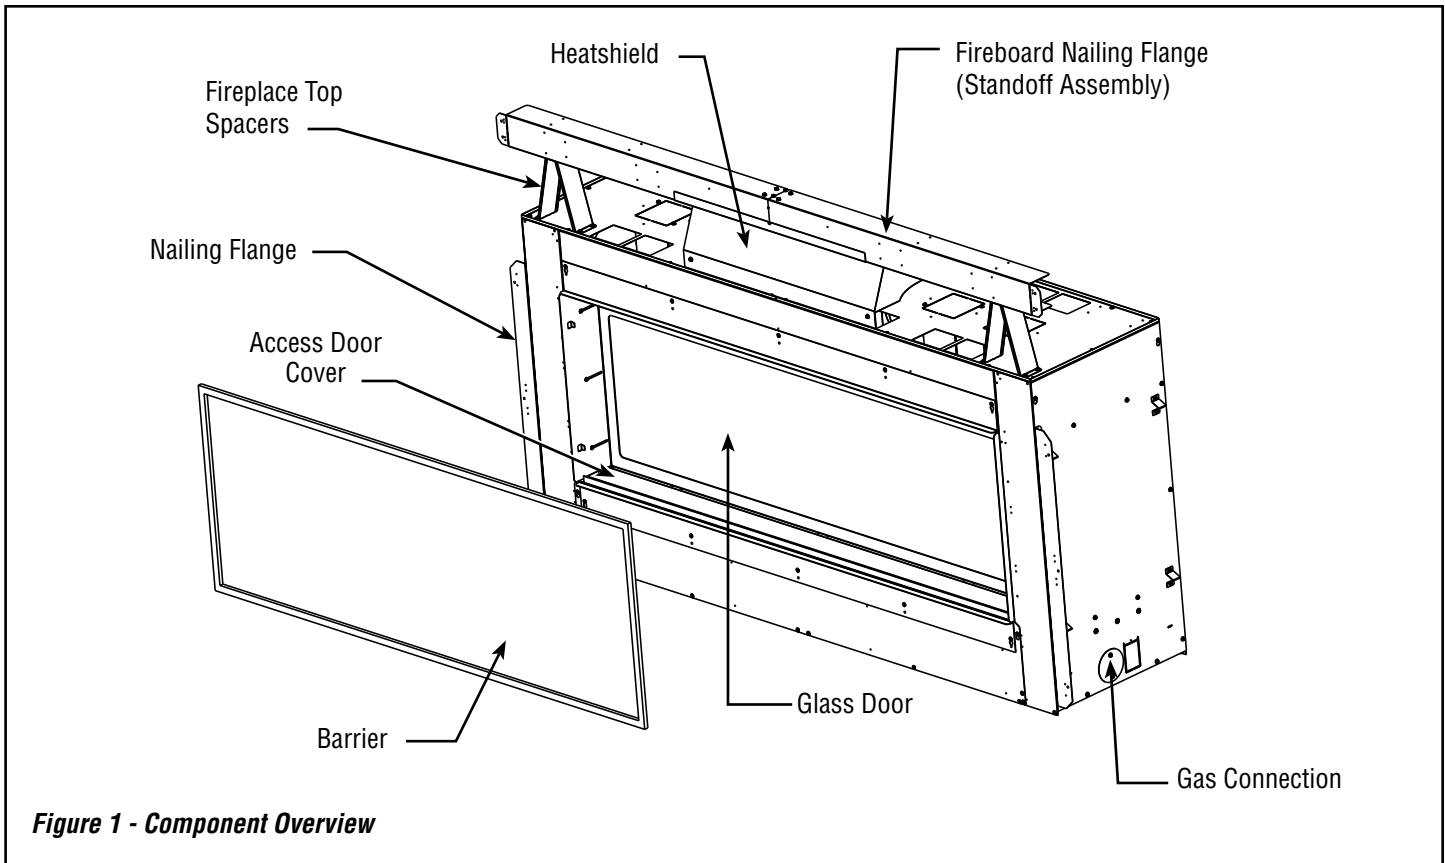

Figure 1 - Component Overview
- 60" Models - Three (3), 5 lb. bags
- 72" Models - Four (4), 5 lb. bags
- 84" Models - Five (5), 5 lb. bags
- One (1), Hand Held Remote Control
- Four (4), AA Batteries
- Three (3), AAA Batteries
- One (1), Fireboard Top
- One (1), Fireboard Bottom
- Two (2), Fireboard Sides
- One (1) Standoff Assembly (*see Figure 1*)
- One (1) Heat Shield (*see Figure 1*)
- Twelve (12) #10 Hex Head Screws